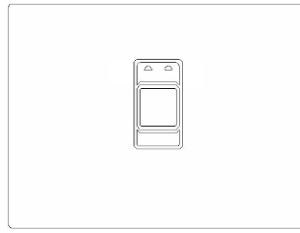

Fig 11
- ② The tyre interchange setting mode enters according to operation steps mentioned above as shown in figure 11;